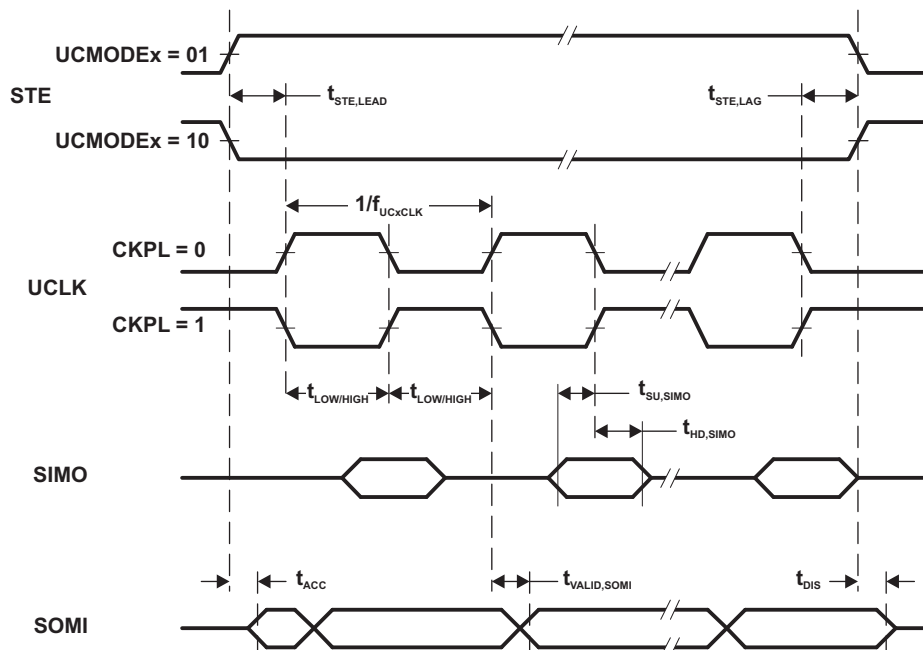
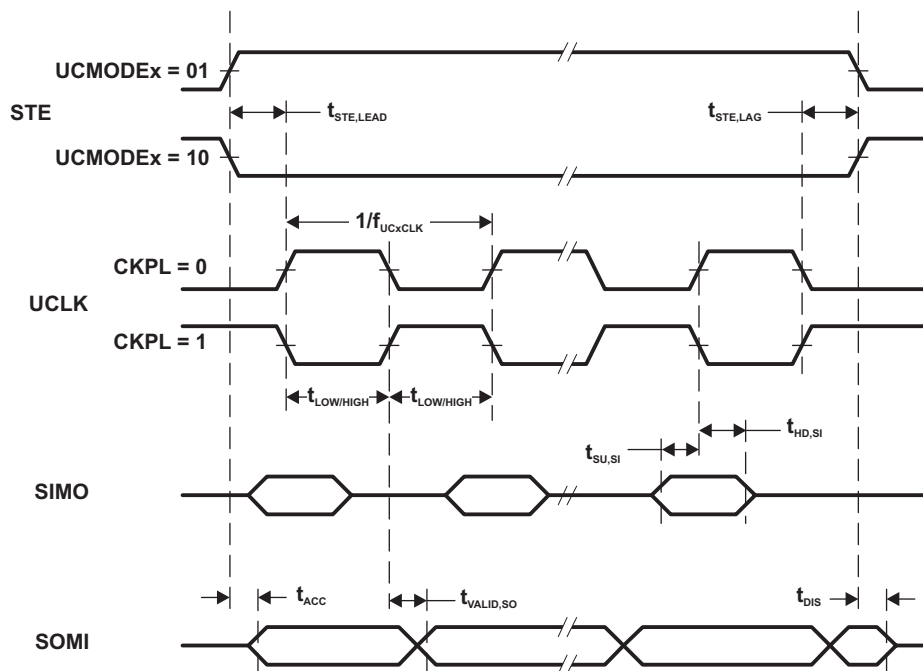

Figure 5-8. SPI Slave Mode, CKPH = 0
Figure 5-9. SPI Slave Mode, CKPH = 1
- (2) Specifies the time to drive the next valid data to the SOMI output after the output changing UCLK clock edge. See the timing diagrams in Figure 5-8 and Figure 5-9.
- (3) Specifies how long data on the SOMI output is valid after the output changing UCLK clock edge. See the timing diagrams in Figure 5-8 and Figure 5-9.